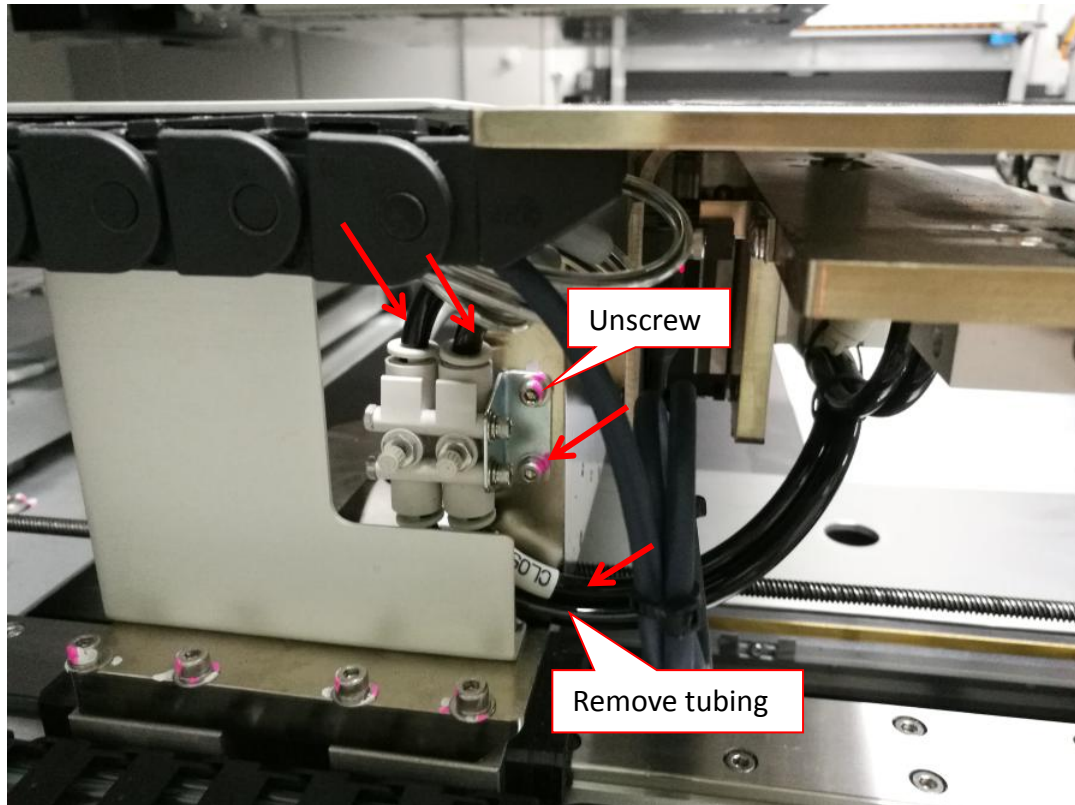

Figure 1 Tubing Removal
2. Perform Marking at Tubing. Remove 4 x Tubing & 2 x Screws as shown in Figure 1